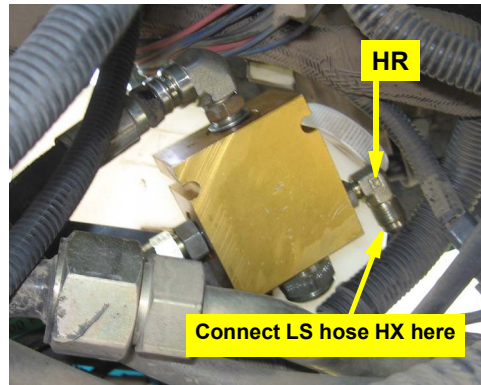

Figure 5a: Load sense hose at load sense shuttle
a. Connect load sense hose **HX** (not shown) to adapter **HR** in the load sense shuttle (Figure 5a). Using heavy tie straps **HY**, route the hose to the hydraulic steering block.